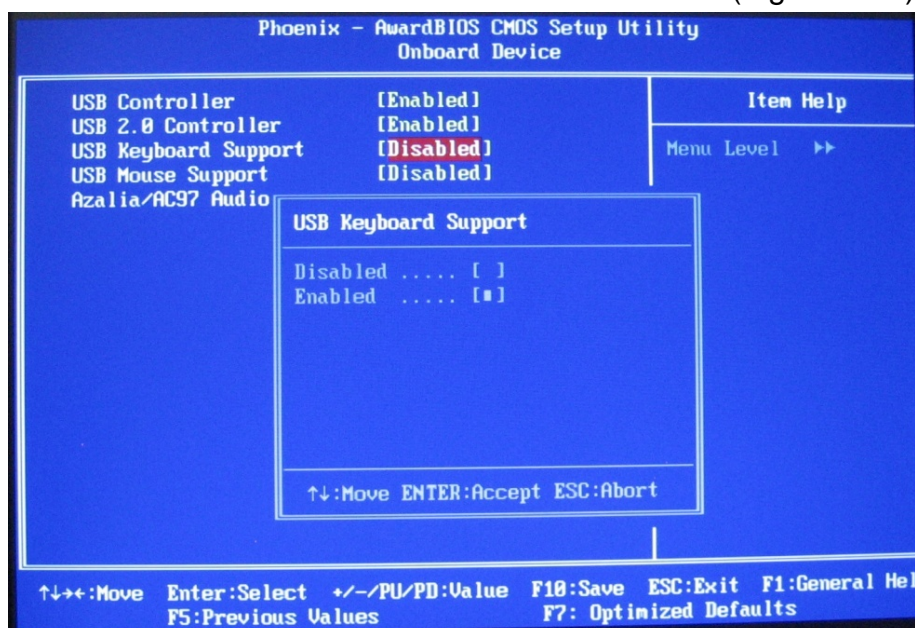

Figure 7-28 USB Keyboard Support
18. Select **Enabled** on the **Popup** screen. Press **ENTER**. (Figure 7-28).